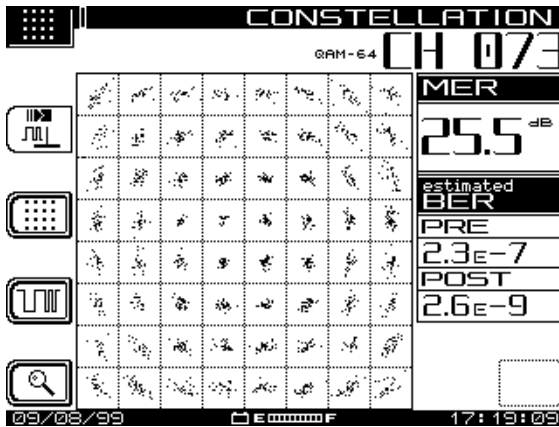

Fig. 9-13 Phase Noise Impairment
**Phase noise impairments** cause the dots on the graph to form a circular pattern (see Fig. 9-13). Phase noise is best seen on the grid without the use of the zoom feature.